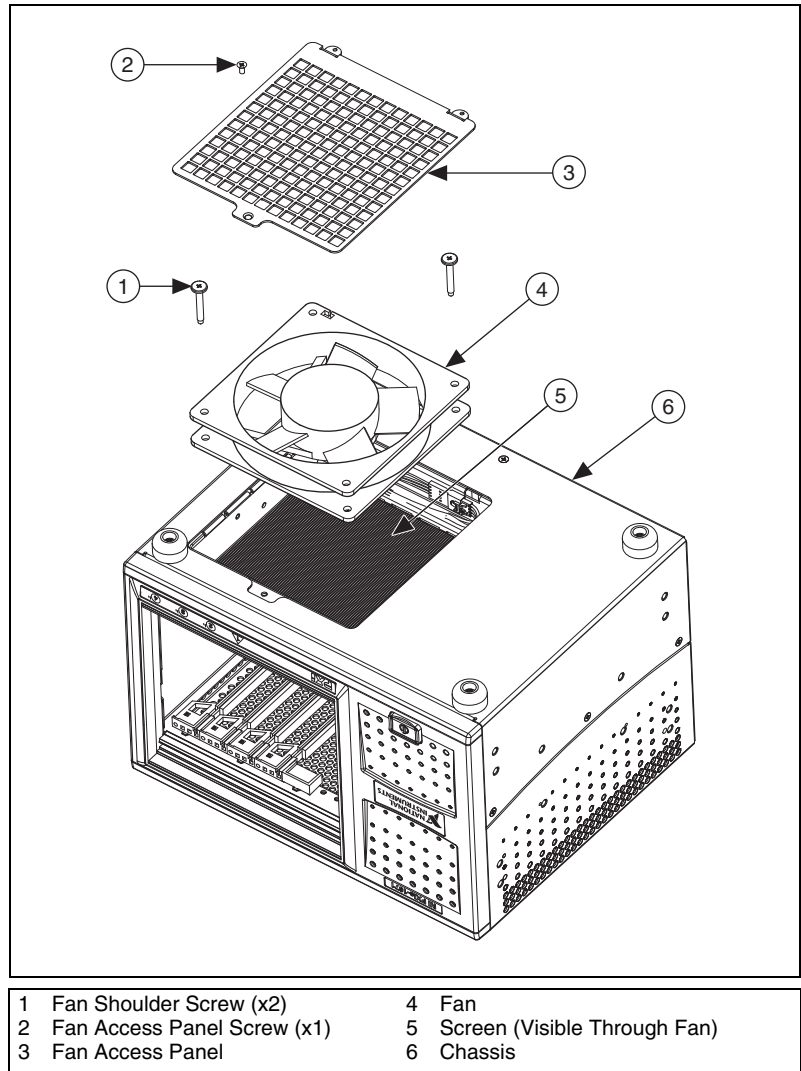

Figure 1. PXI Express Chassis Part Locations (Chassis Shown Upside Down)
Refer to Figure 1 and the following steps for installation and removal instructions.
Figure 1 shows the parts you must remove to access the fan. Refer to the following steps for installation and removal instructions.
2. Remove the two fan shoulder screws, shown in Figure 1, that fasten the fan. Be careful not to lose the screws.
Place the screen below the fan (see Figure 1 for screen location). Ensure that the loose screen doesn't fall out. If the screen does fall out, return it to its position under the fan.